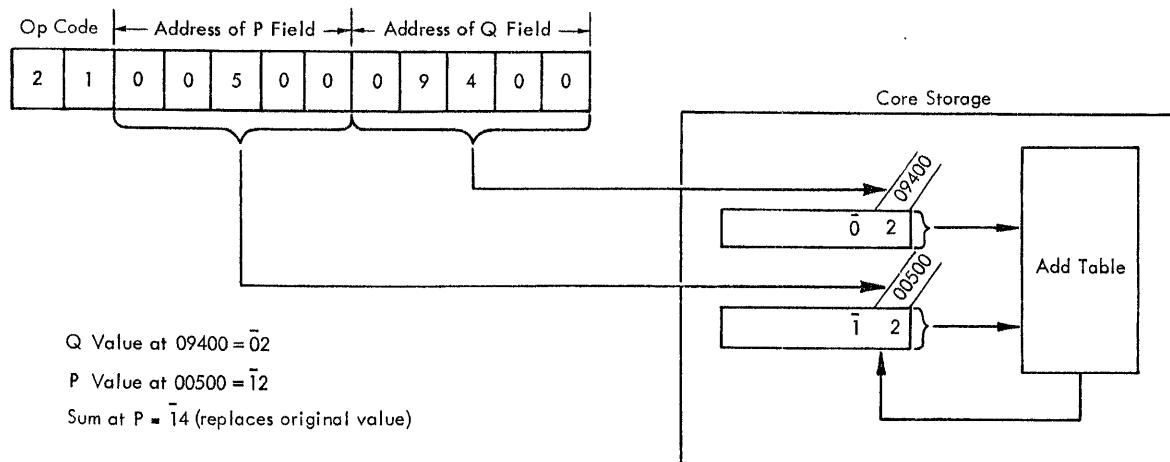

Figure 12. Add Instructions - Data Flow
In Figure 12, the sum (14) is "looked up" in the Add table and replaces the 12 at 00500 (P address). The field mark remains at the high-order position. When the sum is zero, the sign of the P field is re-
*Description.* The description is the same as that for Add (A-21) except that the data in the Q part of the instruction is used as the Q data. For example, if the Op core were 11 in Figure 12, the Q data would be 09400 and the result would be 12 (00 + 12). The three high-order positions of the Q data (094) are not used because the P-data flag bit (above the one in 12) stops the add operation. The Arithmetic Check indicator is turned on because the Q data field (09400) exceed the two digits of data (12) contained in the field defined by the P address (00500).